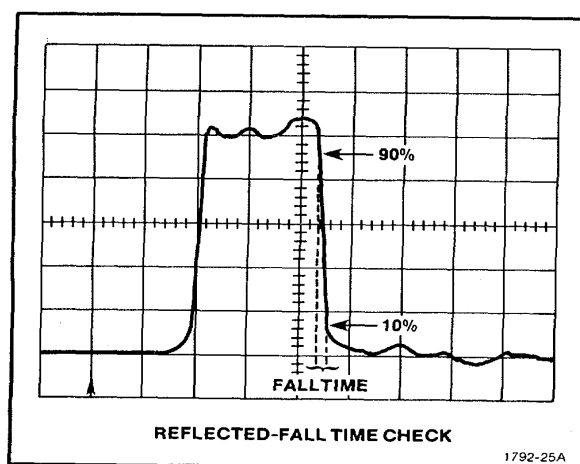

Figure 4-4. Falltime.
58. Remove the 50 Ω terminator from the CABLE connector. Install the GR to bnc adapter and the GR short. Check that the reflected rise time of the pulse (fall time) is 40.875 divisions. See Fig. 4-4.